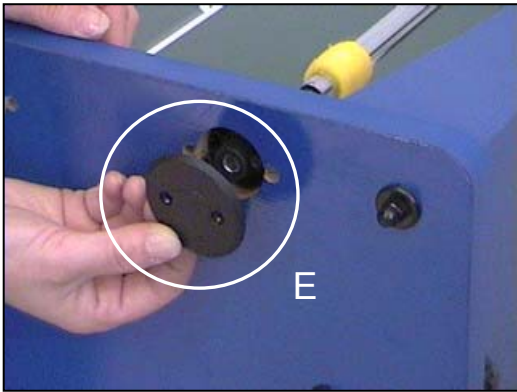

fig. 13
Insert each end stop bush cover (E) as in fig.13 and fasten it using the screws supplied by a cross screwdriver (fig.14).